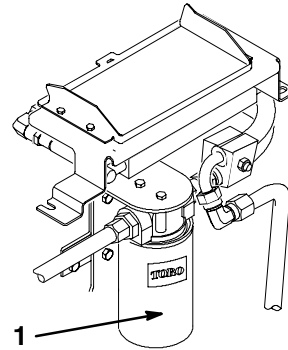

Figure 40
5. Place a drain pan under the filter (Fig. 40).
6. Remove the old filter (Fig. 40) and wipe the surface of the filter adapter gasket clean.
8. Install the replacement hydraulic filter onto the filter adapter (Fig. 40). Tighten it clockwise until the rubber gasket contacts the filter adapter, then tighten the filter an additional 3/4 turn.